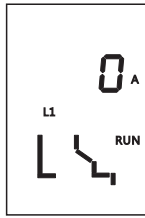

Figure 61. L1 phase current display interface
(1) Default status: The default status is the measurement status where all the fault indicators are off and the controller is in non-button operation state and shows the maximum current.
In the default status, if you press "▲" or "▼" button, the L1, L2, L3, (LN) and Lg current values are displayed cyclically. Figure 61 is an example.